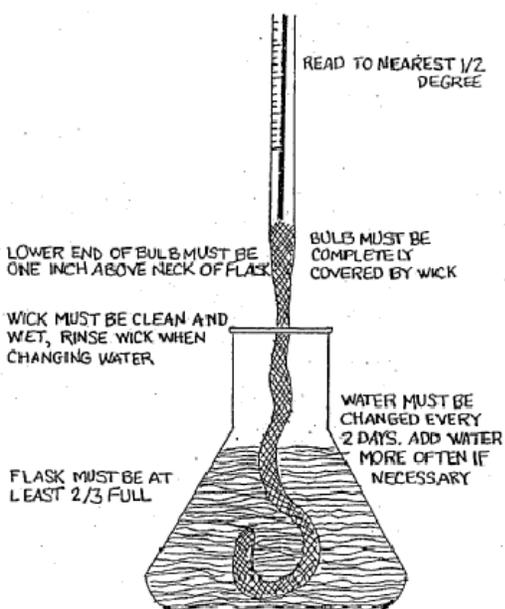

Figure 3.--Wet Bulb Thermometer.
(1) The wick consists of a white shoelace with the tips cut off. The shoelace must be of cotton, as other fabric will give false readings. One end surrounds the bulb of the mercury thermometer. The other end is immersed in water contained in a small flask suspended from the same horizontal arm.
(2) The wick should be rinsed with fresh water every 2 days, and the water in the flask replaced with fresh water every 2 days. Each week the wick should be washed with soap and water, then rinsed thoroughly.
(3) The wick surrounding the bulb should be thoroughly wet, but the bulb must be 1-inch above the mouth of the flask and freely exposed to the air.
(4) See figure 3 of this enclosure.